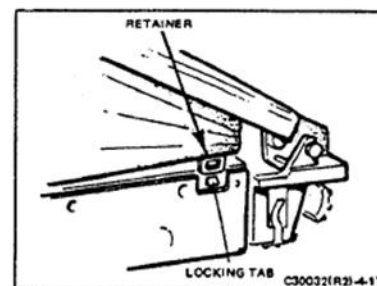

FIGURE 4-17 BOOT RETAINER
5. Snap the boot retainer over the tabs on the inner frame (see Figure 4-17).